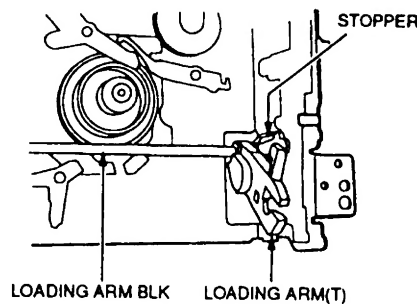

Fig 5.
- 1: Release the stopper on the right side end of the LOADING ARM BLK's shaft as shown in Fig 5. by pressing the stopper tab with a flat head (-) screw driver. Then remove the shaft's right end from the bracket.
- 2: Hold the LOADING ARM (T) and then pull out the shaft's left end from the bracket. Take special care when removing it to avoid damaging the pins (refer to Fig 5).